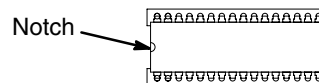

Fig. 16
4. Locate the software chips that need to be changed in the control modules. See Fig. 19. Note the chips' location and orientation; there is a slight notch in one end of the chips to orientate them. See Fig. 16.